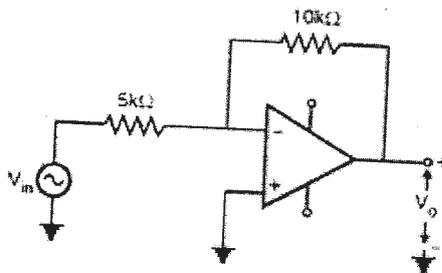

Figure 3
- c)** Explain the effect of offset voltage on active filter performance. The input to the inverter shown in Fig.3 is a sine wave of amplitude 5 volt. If the slew rate of the op amp is $1V/\mu\text{sec}$, find the frequency at which the slew rate limiting occurs. [6]